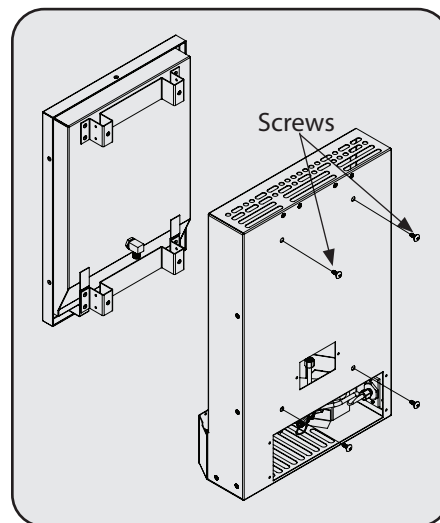

Figure 9
8. Remove the (4) four screws connecting the burner to the back of the heater. See Figure 9.